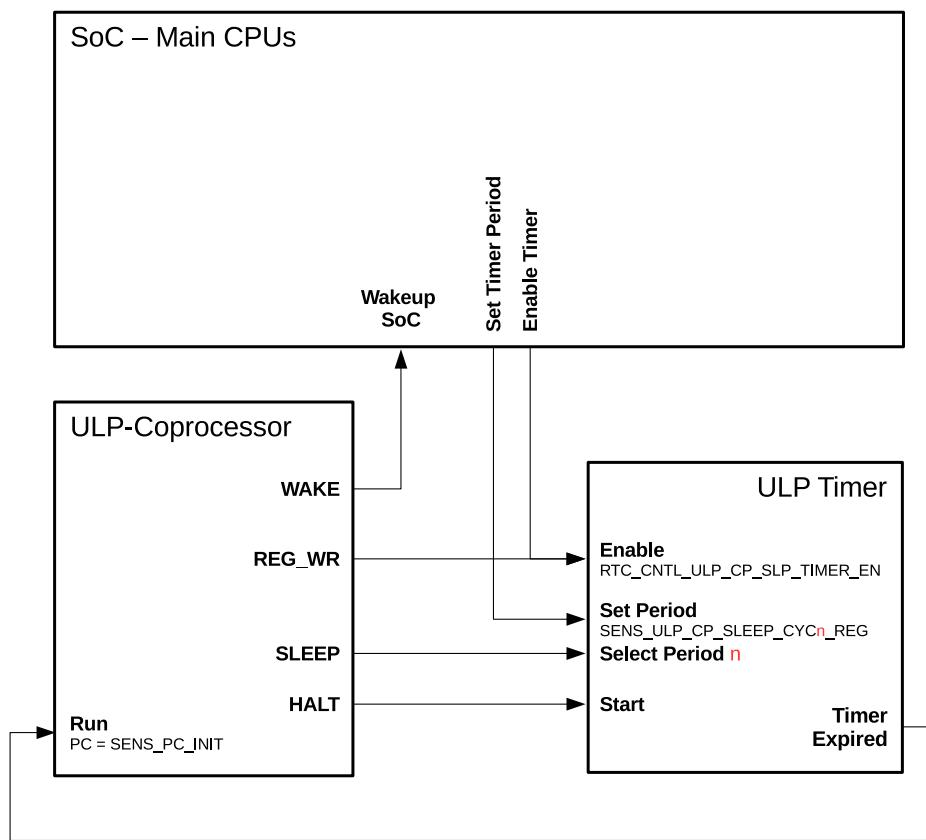

Figure 1.5-1. Control of ULP Program Execution
(PC) which is stored in register SENS_PC_INIT. The relationship between the described signals and registers is shown in Figure 1.5-1.